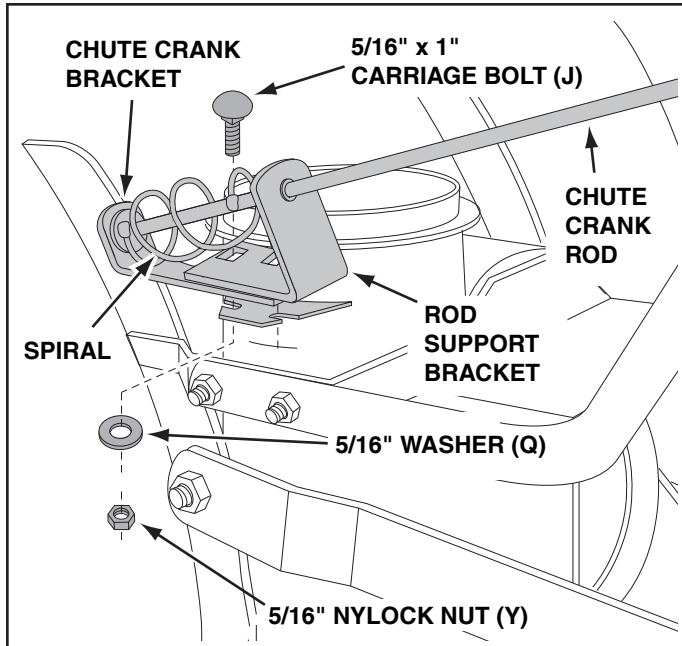
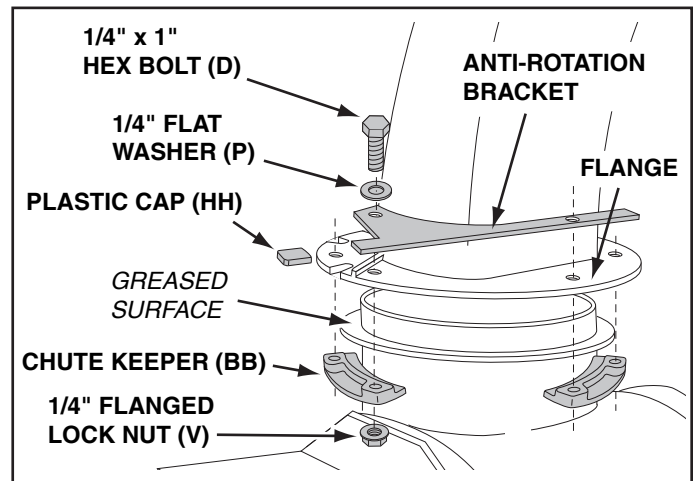

FIGURE 51
FIGURE 52
**STEP 52: (SEE FIGURE 51)**
- Attach the chute crank rod assembly brackets to the plastic bracket on the left side of the discharge housing. Align the chute crank bracket beneath the rod support bracket and assemble both to the plastic bracket using two 5/16" x 1" carriage bolts (J), 5/16" washers (Q) and 5/16" Nylock nuts (Y). **Do not tighten yet.**
**STEP 53: (SEE FIGURE 52)**
- Place the discharge chute (facing forward) onto the ring. Place the anti-rotation bracket on top of the chute flange, aligning it with the holes on the right hand side of the flange. Attach the three chute keepers (BB) (right side up as shown) to the bottom of the flange using six 1/4" x 1" hex bolts (D), 1/4" flat washers (P) and 1/4" flanged lock nuts (V). **Tighten carefully** so that the nuts are snug but do not dig into the plastic chute keepers.
- Place the plastic cap (HH) onto the short end of the anti-rotation bracket.
- Position the crank rod spiral (see figure 51) so that it does not rub against the bottoms of the notches in the chute flange. **Tighten** the nuts.
- Secure the control cables to the crank rod support tube using a nylon tie (II).